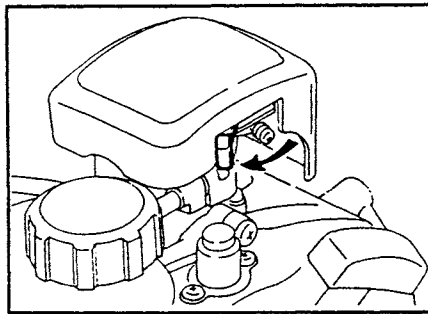

Figure 12
5. After starting the engine, gradually open choke by turning the choke lever and finally keep it open fully. See Figure 12.